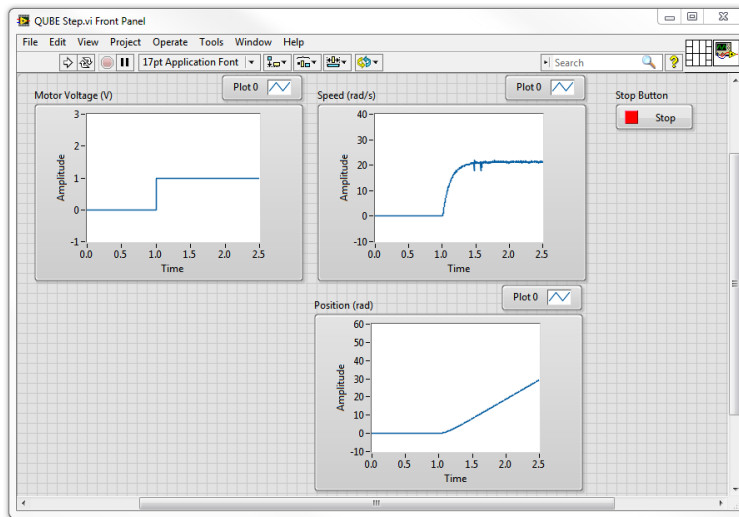

Figure 3.2: Step Response
3. Apply a unit step voltage to the servo by running the VI shown in Figure 3.1. Configure the Simulation Loop to run for 2.5 seconds. The position and speed step response should be similar to Figure 3.2.